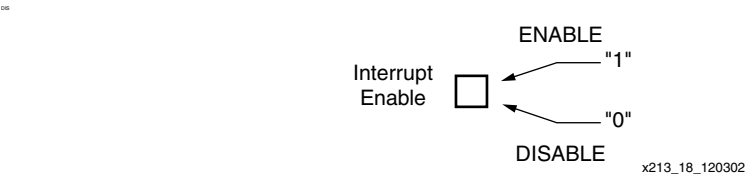
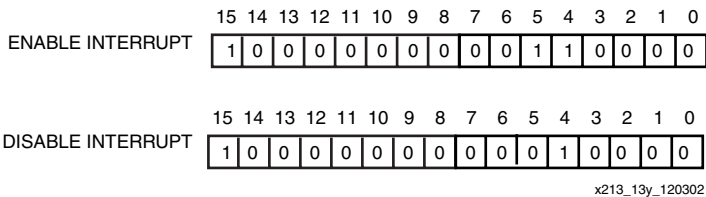

Figure 19: ENABLE/DISABLE INTERRUPT Instruction
Figure 20: ENABLE/DISABLE INTERRUPT Instruction Specification
These instructions are used to set and reset the INTERRUPT ENABLE flag (Figure 19). Before using ENABLE INTERRUPT (Figure 20), a suitable interrupt routine must be associated with the interrupt address vector (FF). Never enable interrupts while performing an interrupt service routine.